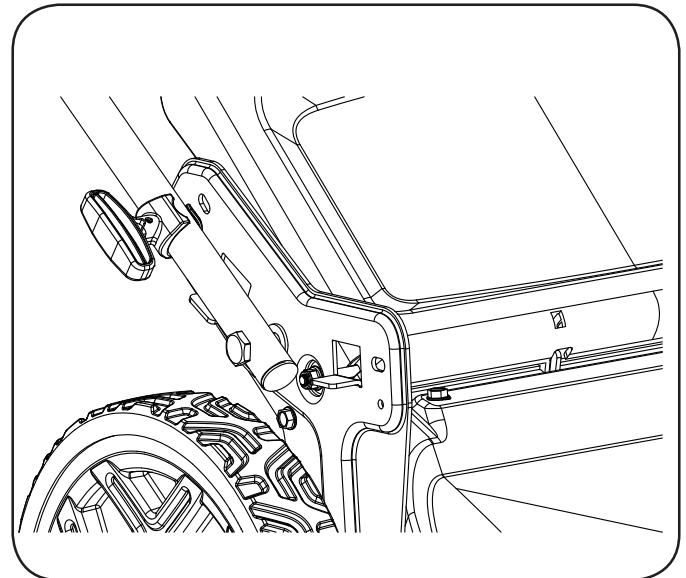

Figure 3
2. Tighten handle fixing knobs for mounting the lower handle on mower (Figure 3).